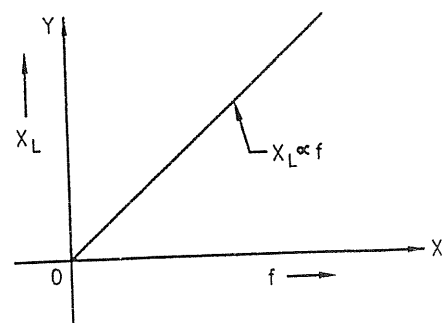

FIG. 2.35 : GRAPH OF INDUCTIVE REACTANCE (X_L) AGAINST FREQUENCY
- Fig. 2.35 shows the graph of inductive reactance (X_L) against frequency under such condition. It is straight line passing through the origin.